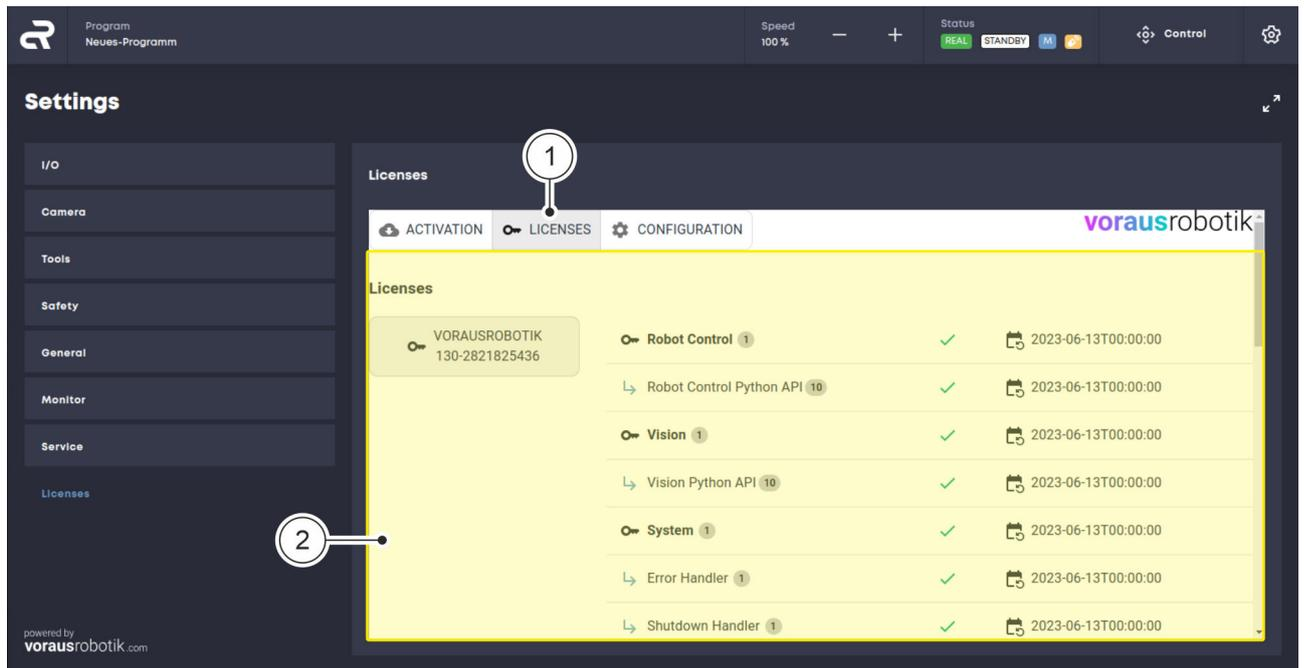

Fig. 49 Opening the license overview
04. Click on the 'Licences' tab Fig. 49 / ① to open the overview of all active products, including the expiry date of the licence Fig. 49 / ②.